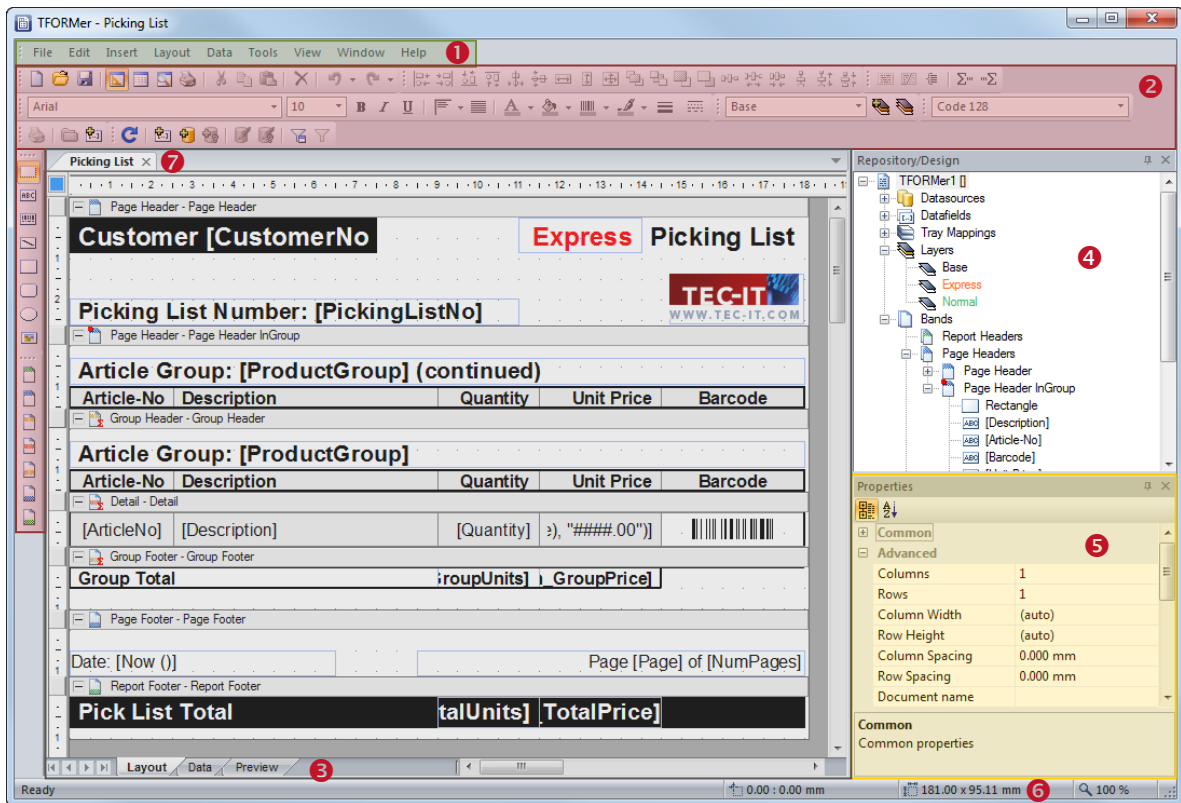

Figure 2: User Interface
Status Bar	Shows or hide the status bar (see Figure 2, ⑥).
Properties	Shows or hide the properties window (see Figure 2, ⑤).
Design Tree	Shows or hide the design tree window (see Figure 2, ④).
Toolbar	Shows or hide single toolbars (see Figure 2, ②).